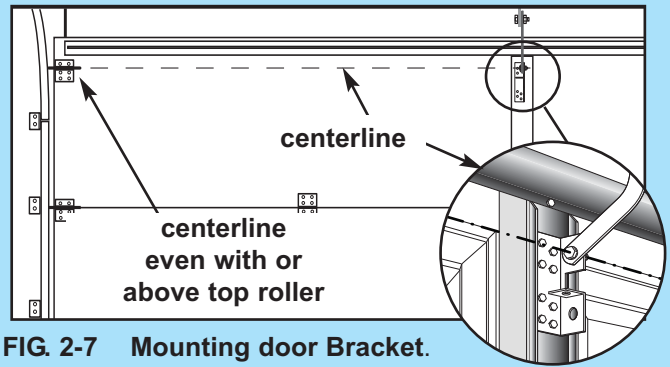

FIG. 2-7 Mounting door Bracket.
- Door bracket is mounted as high on door as possible along vertical centerline and **NO LOWER THAN** top set of rollers (Fig. 2-7).